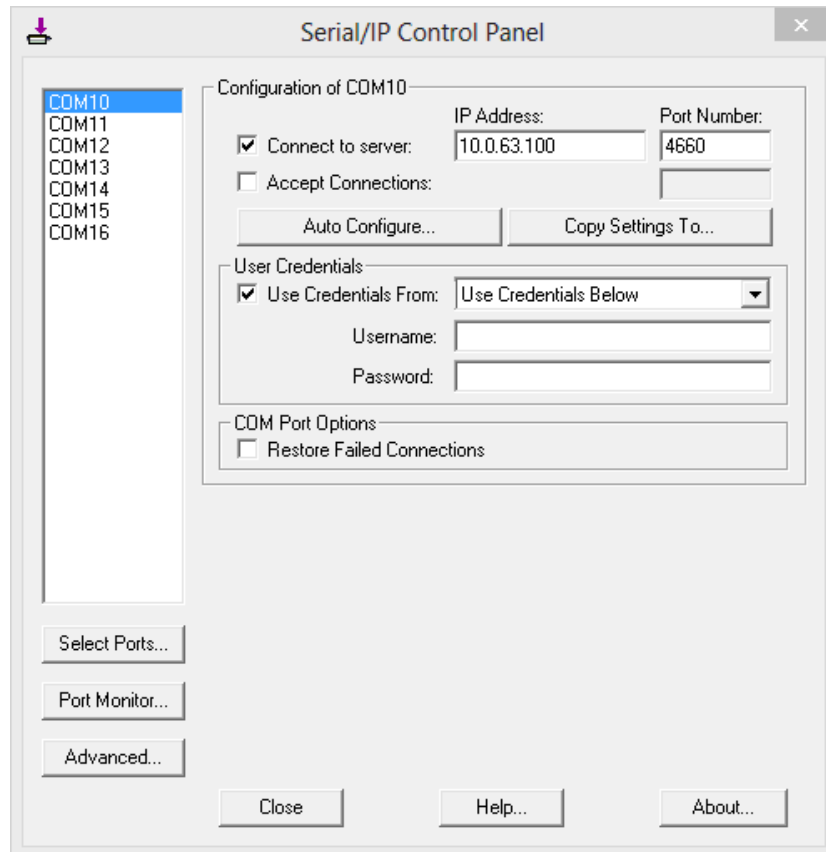
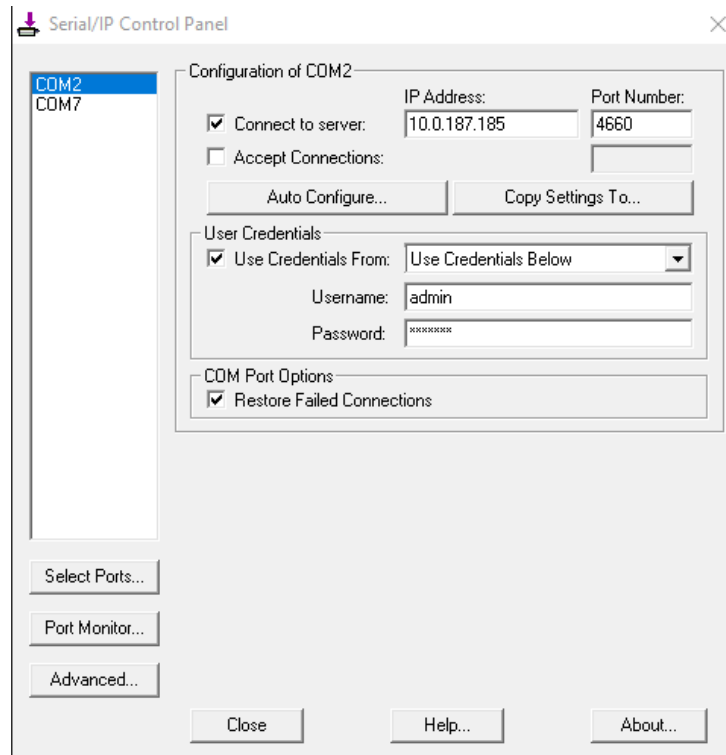

Figure 6.8 Available Options for Use Credential From in Serial/IP Control Panel Version 4.9.10
Figure 6.9 Configuring Virtual COM 2 Port as TCP Client
1. If the serial device server (i.e. SE5201B) is running in **TCP Server Link Mode** (recommended), the **Serial/IP** utility on the host computer should be configured as the TCP client connecting to the serial device server. Enable **Connect to Server** option (by checking the box in front of it as shown in Figure 6.8) and enter the IP Address of the serial device server with the specified **Port Number**. The **Port Number** here is the **Local Listening Port** for the serial device server which is specified in the **Local Port** field of Figure 5.11.
3. Under **User Credentials** box, you can enable **Use Credentials From:** option by checking the box in front of it then select options from the drop-down list. The available sources of credentials are: **Prompt on COM Port Open**, **Prompt at Login**, and **Use Credentials Below** as shown in Figure 6.8. If you select **Use Credentials Below** option as shown in Figure 6.9, please specify the **Username** and the **Password** in their corresponding text boxes.
6. To transfer the settings between Virtual COM ports, click on the **Copy Settings To** button as shown in Figure 6.9.